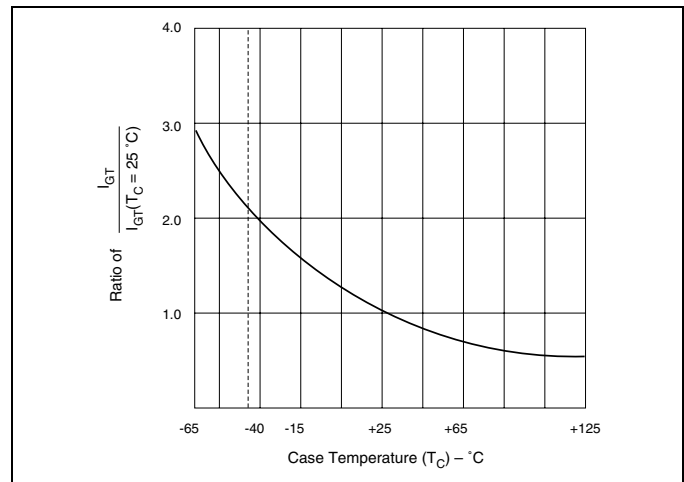

Figure E2.11 Normalized DC Gate Trigger Current for All Quadrants versus Case Temperature
- (7) See Figure E2.11 for I_{GTM} versus T_C.